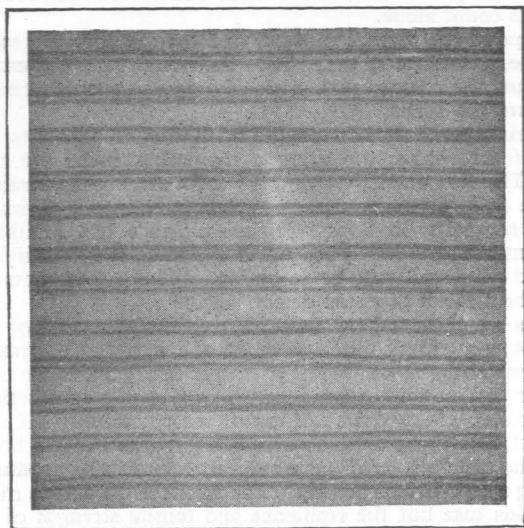

FIG. 38.—See Occlusions.
13. *Occlusions* in the plastic moulding stock vary in nature and degree. It is more appropriate to comment upon the freedom of commercial records from this defect than upon the rare occasions when they are found. In most cases they have no effect whatever upon the correct functioning of the record, but there is always the possibility that they may be picked out by the reproducing point, causing a cavity that completely ruins the record. Figure 38 shows a typical case and, although thousands of records may be scrutinised without finding a speck, it may so happen that a whole batch is affected.